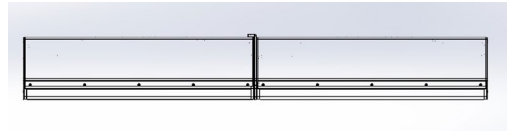

Figure 6 - AC6 columns grill down
- Center the mount on the Flytracks for each AC6 (Figure 6)